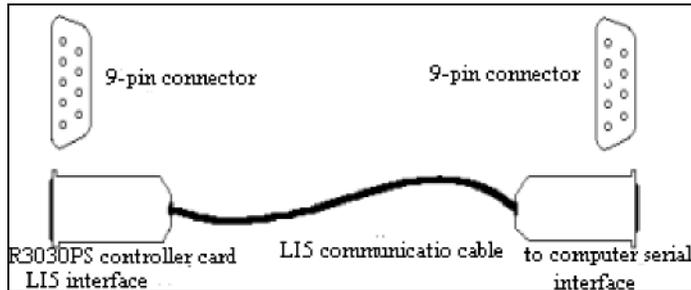

Figure2.
Figure2 shows the sketch of LI5 communication cable:
7. As shown in Figure 2, connect LI5 communication cable.